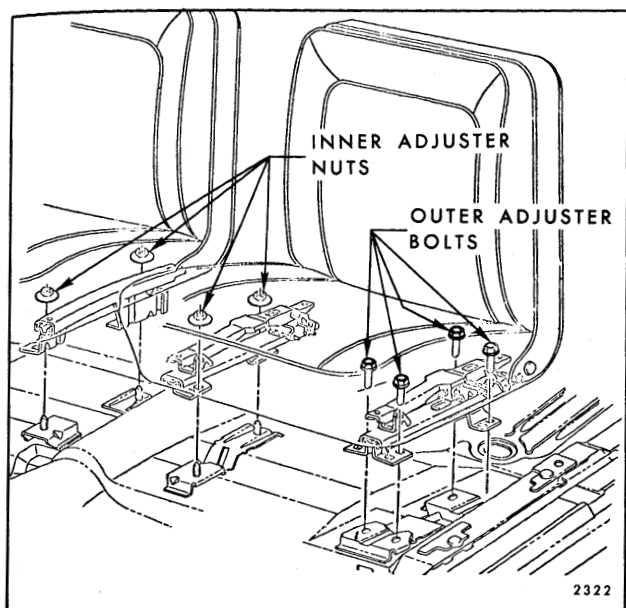
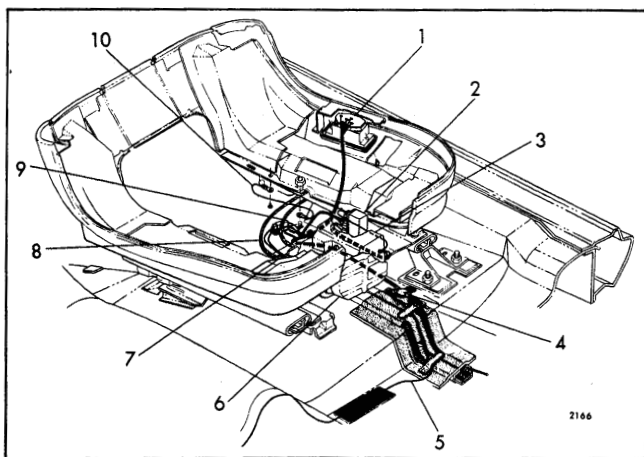

Fig. 10-31—Four-Way Bucket Seat Floor Pan Attachment - "B & C" Styles
Fig. 10-32—Four-Way Strato Bucket Seat Wiring - "A & B" Styles
on floor pan (Fig. 10-32); then remove seat assembly from body.
- b. On "B, C & E" Styles with power operated seat adjusters remove seat adjuster-to-floor pan front attaching bolts (Fig. 10-31). Tilt seat rearward sufficiently to disconnect seat harness feed connector and detach harness from clip on floor pan (Fig. 10-32 or 10-33); then remove seat assembly from body.